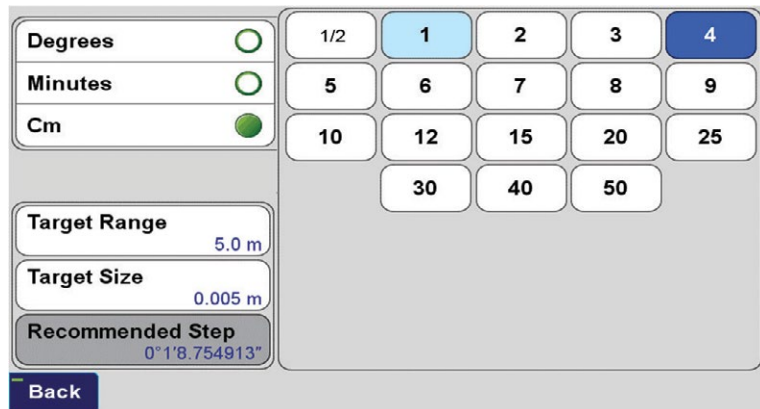

Figure 2
1. There are Left/Right/Up/Down buttons around the screen (“4” and “14”). Each click moves the J-Mate according to the value that you assign to them in the set-up screen (“15”), as shown in Figure 2.